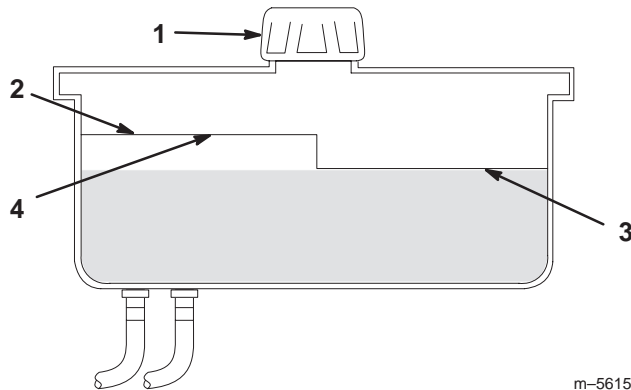

Figure 47
2. Clean the area around the filler neck of the hydraulic tank (Fig. 47).
3. Remove the cap from the filler neck. Look inside to check if there is fluid in the reservoir (Fig. 47).
Note: The fluid level should be to the top of the **hot** level of the baffle, when the fluid is warm (Fig. 47).